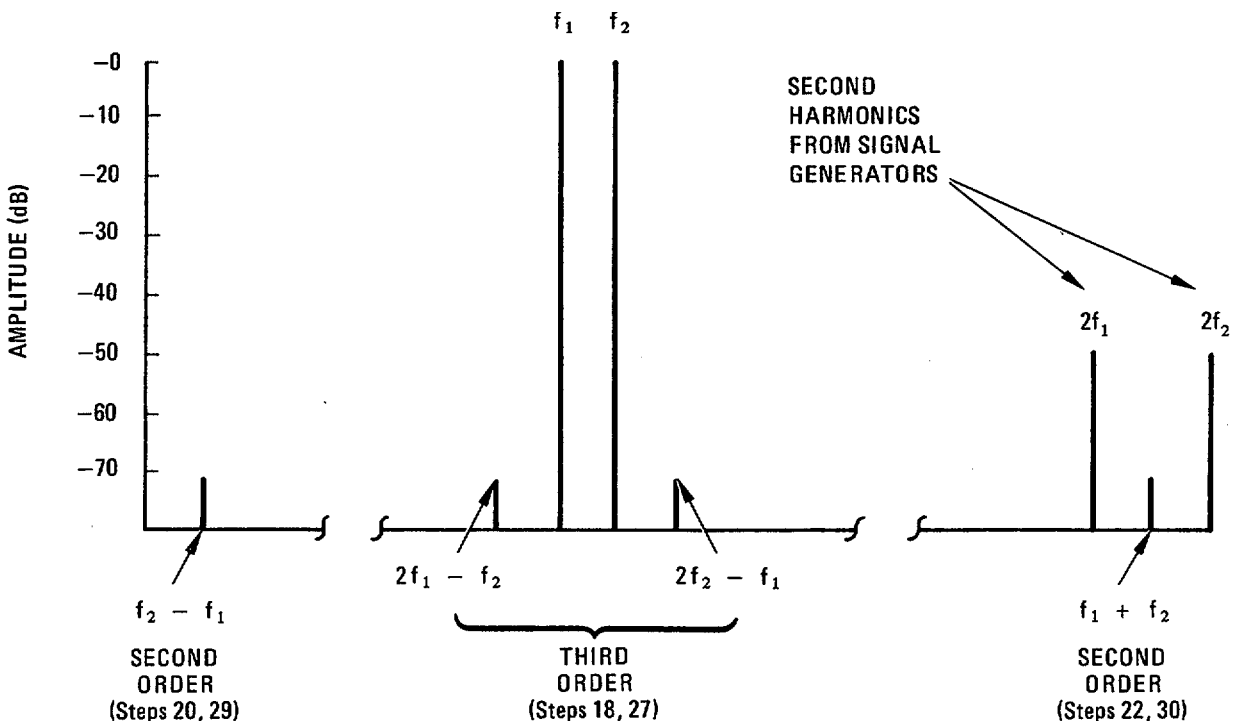

Figure 4-15. Intermodulation Distortion Products
18. Reduce spectrum analyzer RESOLUTION BW to 3 kHz and check for third order intermodulation distortion products at approximately 3 divisions to either side of center graticule line (see NOTE below). They should be more than 70 dB below input signals (-100 dBm on spectrum analyzer display). (See Figure 4-15.)
20. Set spectrum analyzer TUNING to 1 MHz and momentarily press FREQUENCY CAL switch. Set RESOLUTION BW to 3 kHz and adjust VIDEO FILTER as necessary for more than 70 dB display range. Check for second order intermodulation distortion product ($f_2 - f_1$) near center of display (see NOTE below). Second order intermodulation distortion product should be more than 60 dB below the total applied signal (-100 dBm on spectrum analyzer display). (See Figure 4-15.)
22. Check for second order intermodulation distortion product ($f_1 + f_2$) between $2f_1$ and $2f_2$ signals (see NOTE below). Set RESOLUTION BW to 3 kHz and adjust VIDEO FILTER as necessary for more than 70 dB display range. Second order intermodulation distortion product should be more than 70 dB below total applied signal (- 110 dBm on spectrum analyzer display). (See Figure 4-15.)
29. Set spectrum analyzer TUNING to 1 MHz and momentarily press FREQUENCY CAL switch. Set RESOLUTION BW to 3 kHz and adjust VIDEO FILTER as necessary for more than 70 dB display range. Check for second order intermodulation distortion product ($f_2 - f_1$) near center of display (see NOTE below). Second order intermodulation distortion product should be more than 60 dB below total applied signal (-100 dBm on spectrum analyzer display). (See Figure 4-15.)
30. Set spectrum analyzer TUNING to 8 MHz and check for second order intermodulation distortion product ($f_1 + f_2$) between $2f_1$ and $2f_2$ signals. (See figure 4-15.) Second order intermodulation distortion product should be more than 60 dB below total applied signal (- 100 dBm on spectrum analyzer display). (See NOTE above.)